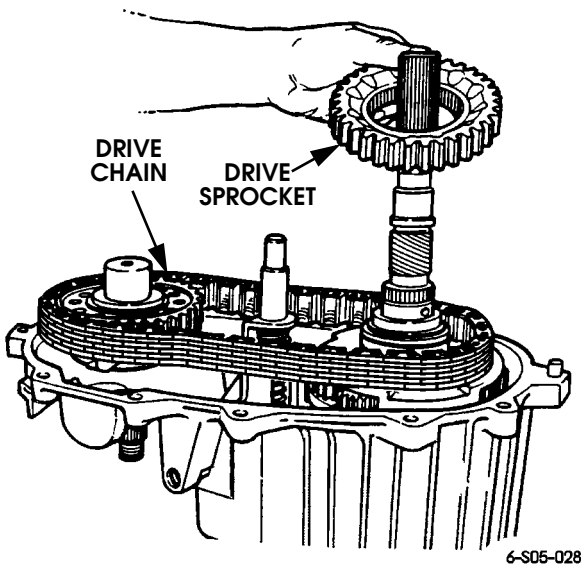

Figure 5-94: Drive Sprocket Removal
12. Remove drive sprocket (Figure 5-94).